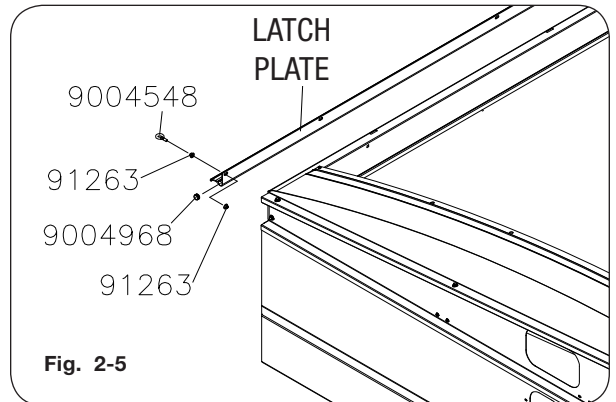

Fig. 2-5
3. Assemble mounting bezel to fender using provided hardware. Position light terminals over 1/16" diameter hole and push light into mounting bezel for a snap fit, see figure 2-4. On the underside of fender, align the wire terminal harness to the light and firmly push-on. See figure 2-5.
- Secure latch plate to front of panel with eyebolt (9004548) and two flange nuts (91263). See Figure 2-5.